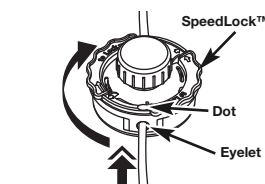

Fig. 24
5. While holding the outer spool in place, pull the SpeedLock™ away from the outer spool and twist the SpeedLock™ clockwise until the dot is in line with the eyelet or until it stops (Fig. 24).